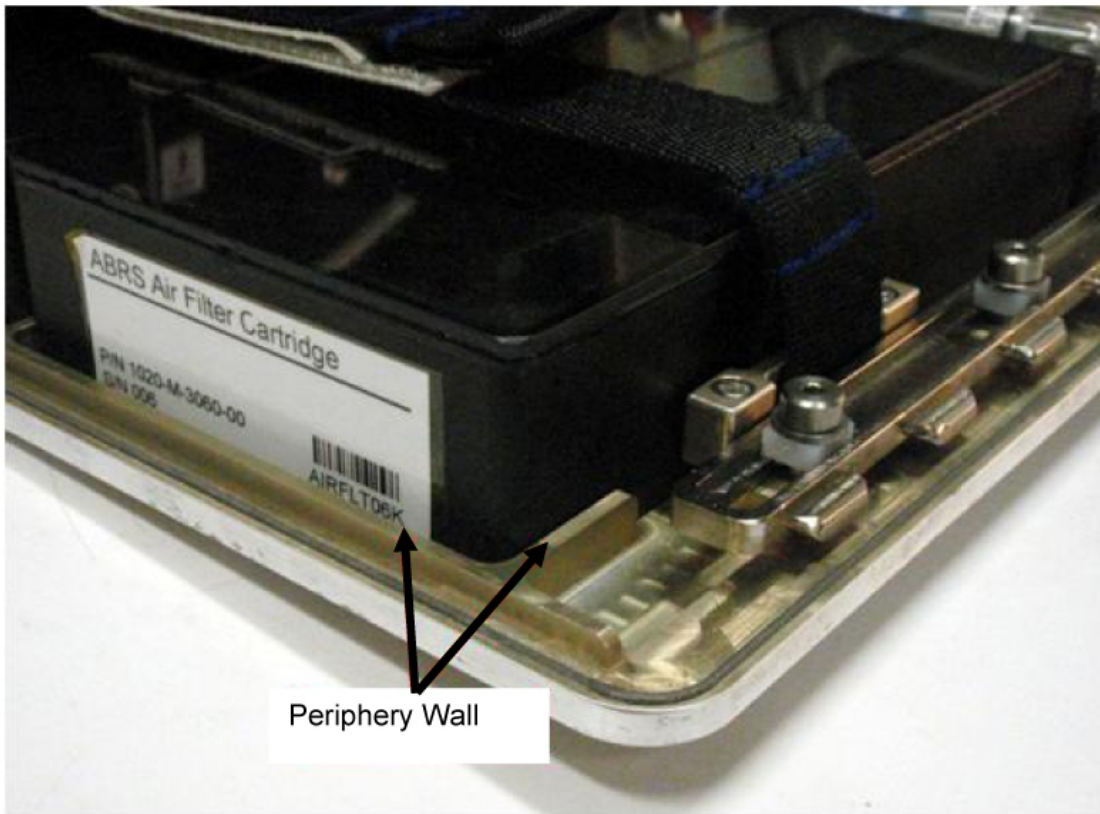

Figure 6. Periphery Wall Around ABRS Filter Cartridges Installed in ABRS.
- 2.9 ✓ABRS Air Filter Cartridges are within the inside of the periphery wall (see Figure 6).